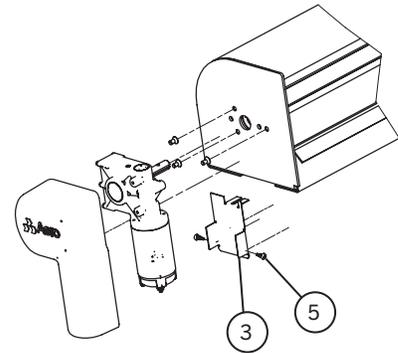

Figure 9-2
- Figure 9-2.** When installing on a tarp housing use the motor cover (3) with two #10 x 1 self-drilling pan head screws (5).